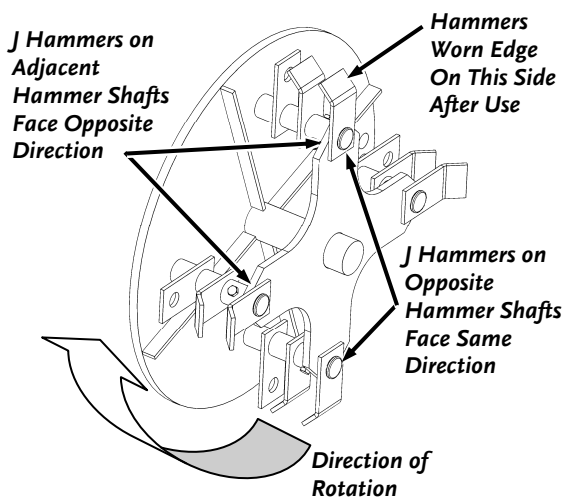

Figure 29
- Note:** There are 2 J Hammers and 1 Flat Hammer on each Hammer Shaft. J Hammers are oriented in the opposite direction of those on adjacent Hammer Shafts (Figure 29).
9. Repeat steps 4 through 9 for the other three sets of Hammers. Confirm that Hammer orientations alternate as shown in Figure 29. Correct them if needed.